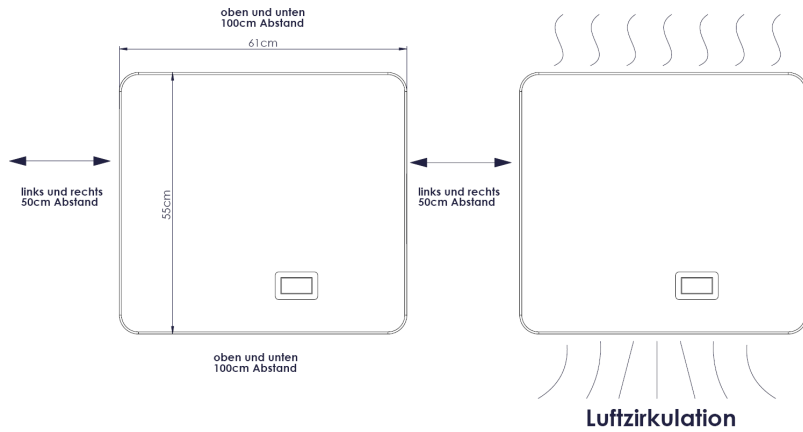

Fig. 7: Minimum distances around the device
- Observe minimum distances to the sides of the housing; see Fig. 7.
- 2. Determine the mounting position of the device. Check the observance of the minimum distances (Fig. 7).